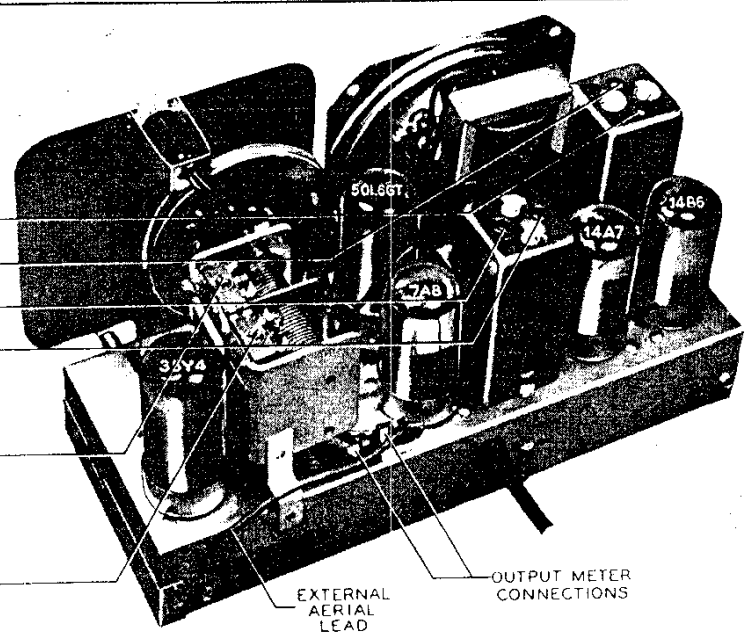

Figure 6. Chassis View, Showing Trimmer Locations
**OUTPUT METER**—Connect to left (output) lug and center (chassis) lug of terminal panel shown in figure 6.